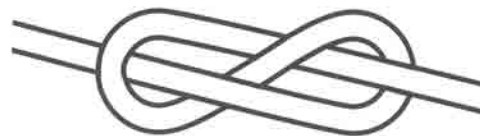

Figure 12
8. To reattach the handgrips, thread the cord through the hole in the handgrip from top to inside. Slip a washer on the cord and tie a figure-eight knot near the cord end to secure the handgrip. See Figure 12.